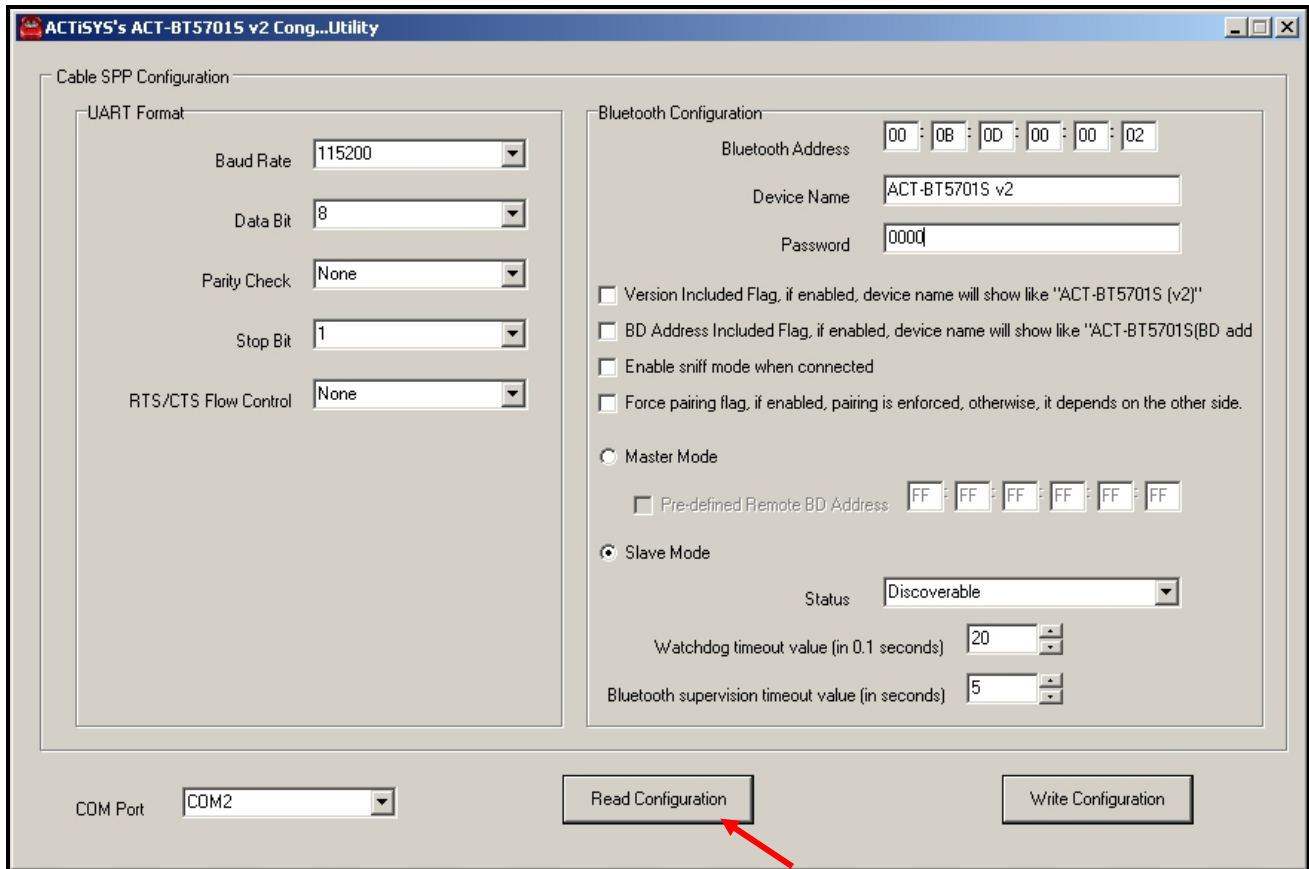

Figure 7: Read Configuration Complete
- 9.6.** Click “**Read Configuration**” button and wait for operation completes. It will indicate default configuration. See Figure 7. In this window user has to define parameters as per requirement. Details please refer to Chapter 8.